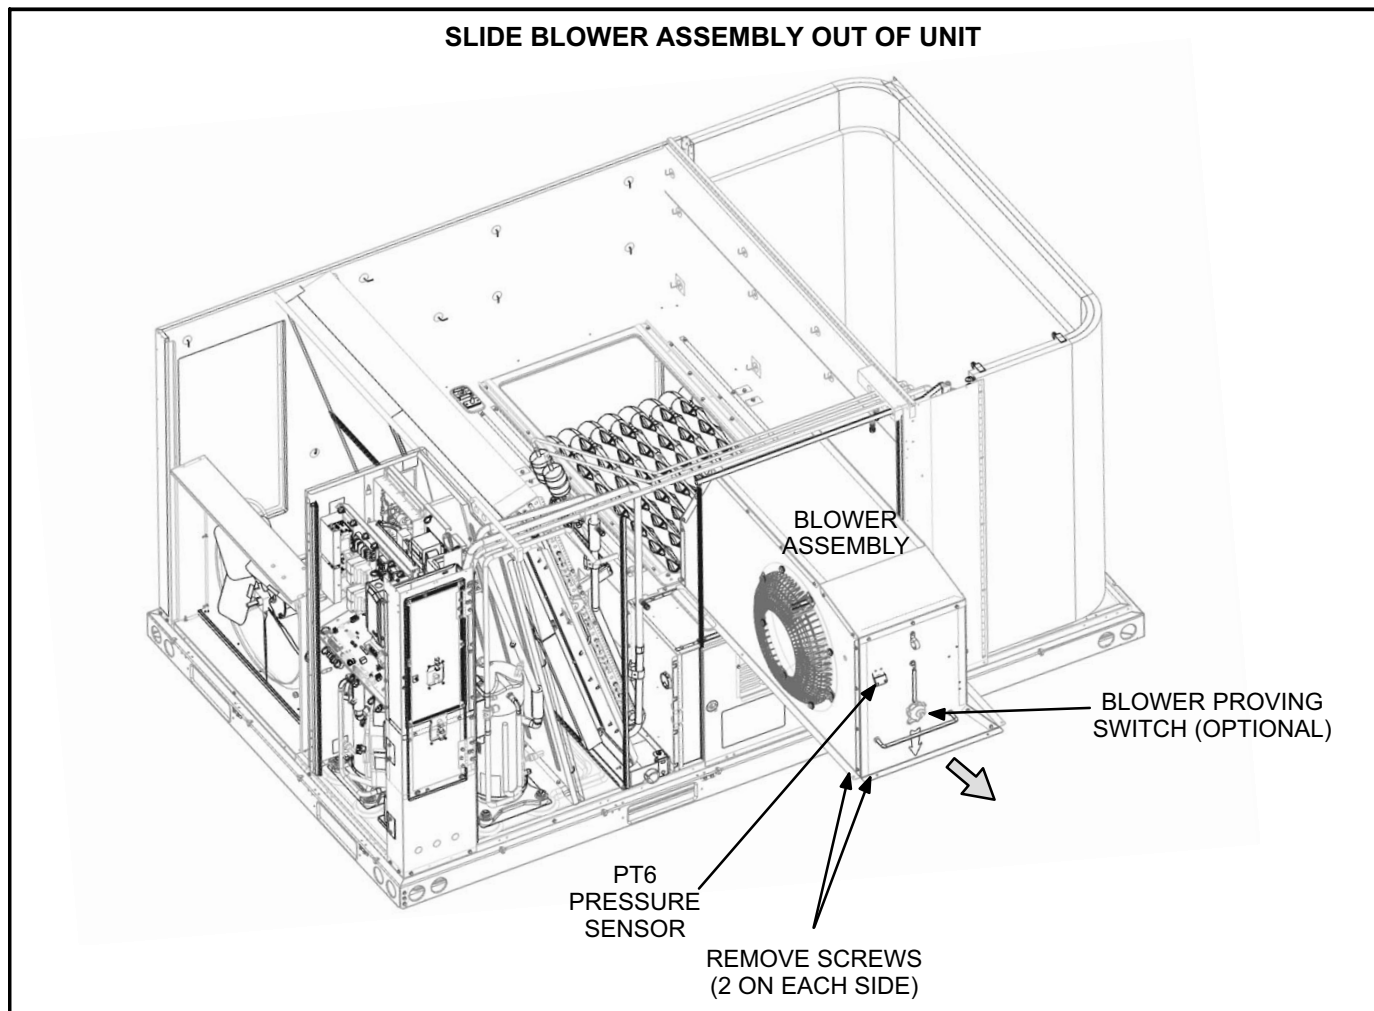

FIGURE 5
- 6- Remove four screws securing blower assembly to unit. See figure 5.
- 7- Install blower assembly flanges into rails on the blower deck in the same manner the discarded housing was removed. Secure into place using four screws shown in figure 5.